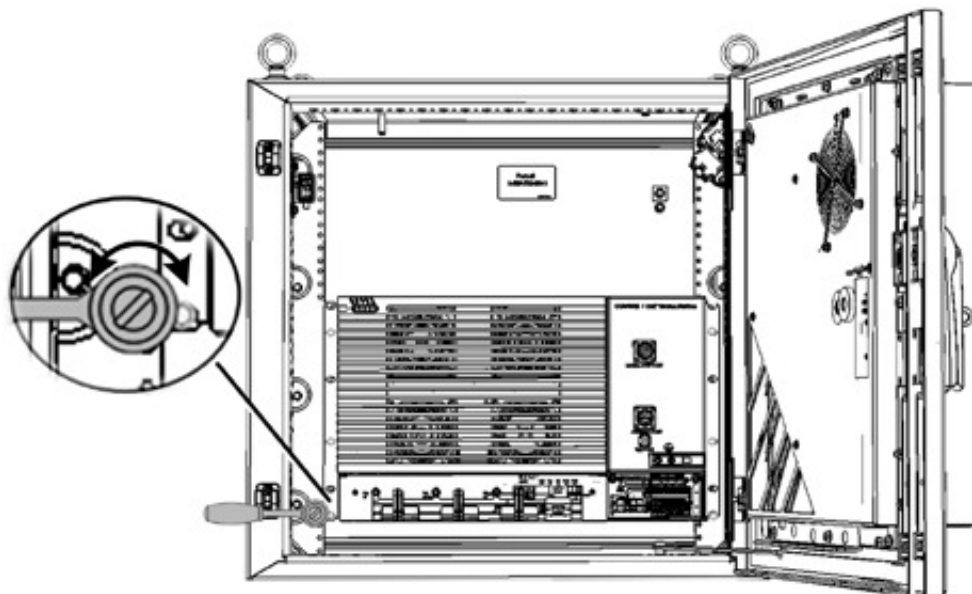

Figure 6-16. Securing MRU to Cabinet Rails
3. Position the bottom half slots of the MRU rack ears onto the protruding screws and tighten the screws using a ratchet wrench. Refer to Figure 6-16.